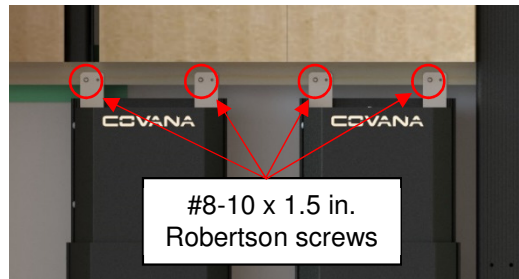

Figure 37
- 11) Unscrew the top #8-10 x 1.5 in. Robertson screws holding the posts to the crate as shown in Figure 37.